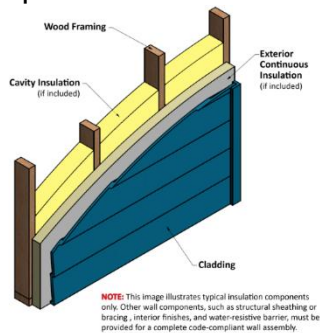

**Figure 4: Foundation and Framed Wall Insulation Options**
**Foundation** walls are required to be insulated above and below grade with one of the following options: minimum R-10 continuous insulation on the exterior of the wall, R-15 continuous on the interior of the wall, R-21 cavity plus a thermal break between the slab and the basement wall at the interior, or R-13 cavity plus R-5 continuous (at interior or exterior). See Figure 4 below: